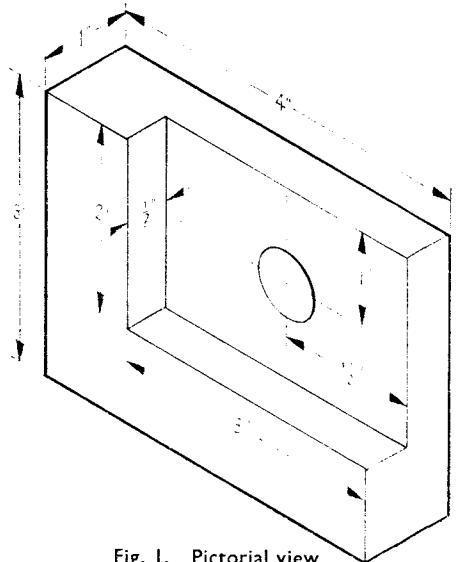
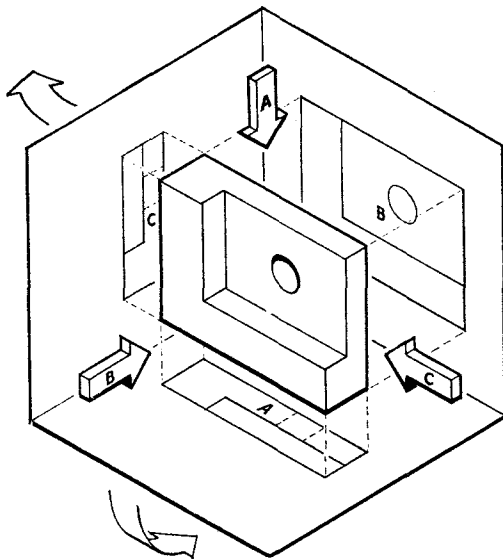

Fig. 1. Pictorial view
Fig. 3. First angle method
4. Fig. 1 shows an easily understood method of drawing an object. This form of drawing is used for supplementary sketches to clarify the standard method of drawing which is called orthographic projection (Para 6).
A *true* isometric projection has all lines drawn approx 82% of their true length. This makes the drawing look the same size as the actual object viewed in perspective. A full size drawing using actual lengths presents the same pictorial shape and is more often used as it is easier to draw. Fig. 1 is also drawn isometrically.
7. **First angle projection.** Imagine the object of Fig. 1 suspended in a box from which the top, front and right hand sides have been removed (Fig. 3).